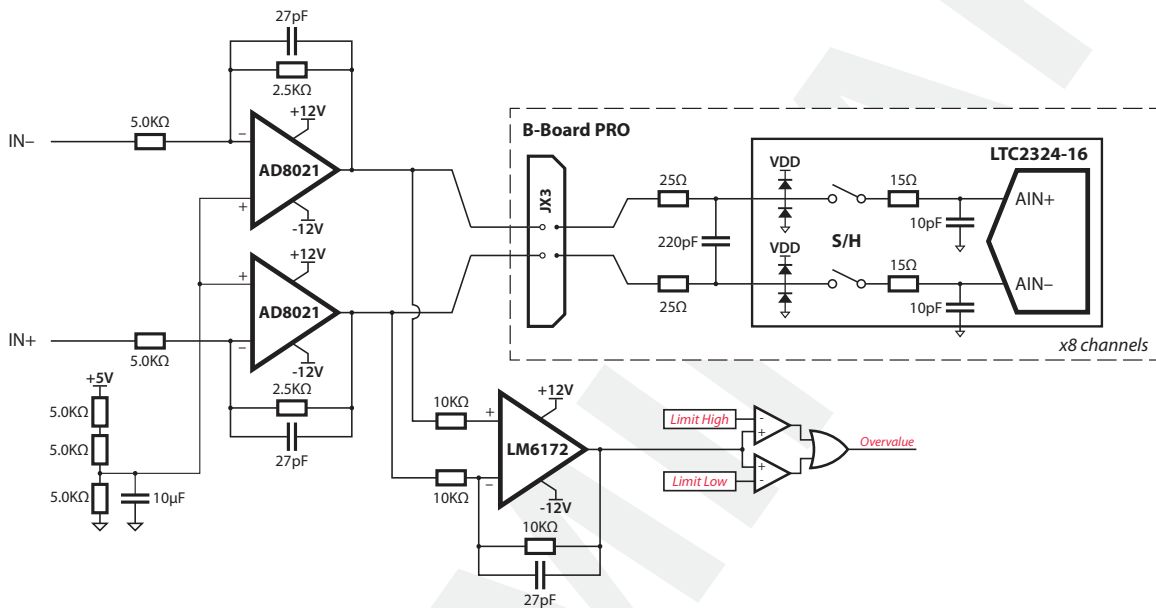

Fig. 6. Recommended carrier schematic for the ADC signals with separate  $\pm 12\text{V}$  power supplies.
- » AD8021 for a high-performance solution with power supplies up to ±12V. A recommended schematic with an output for protection thresholds is given in Fig. 6. The input common-mode range is 0.1–3.9V.